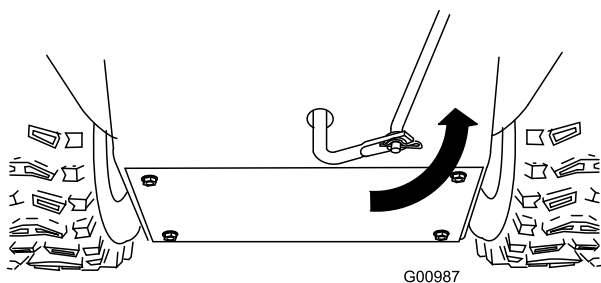

Figure 13
5. Rotate the lower link arm fully upward (counterclockwise) as shown in Figure 13.